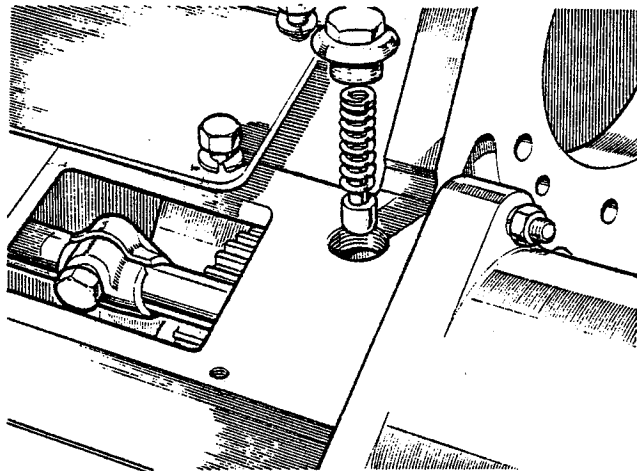

Fig. 42
If the pivot shaft does not move as described, the housing must be removed and the selector assembly rechecked. Secure the selector housing with the remaining fixings tightened to 2.7 kgf m (20 lbf ft). Fit the selector pinch bolt to the high/low selector fork (Fig. 42) and secure it with the fork midway in its slot, taking care that the bolt threads are not damaged as the bolt is tightened.
2. Figure 21 and Figure 42.